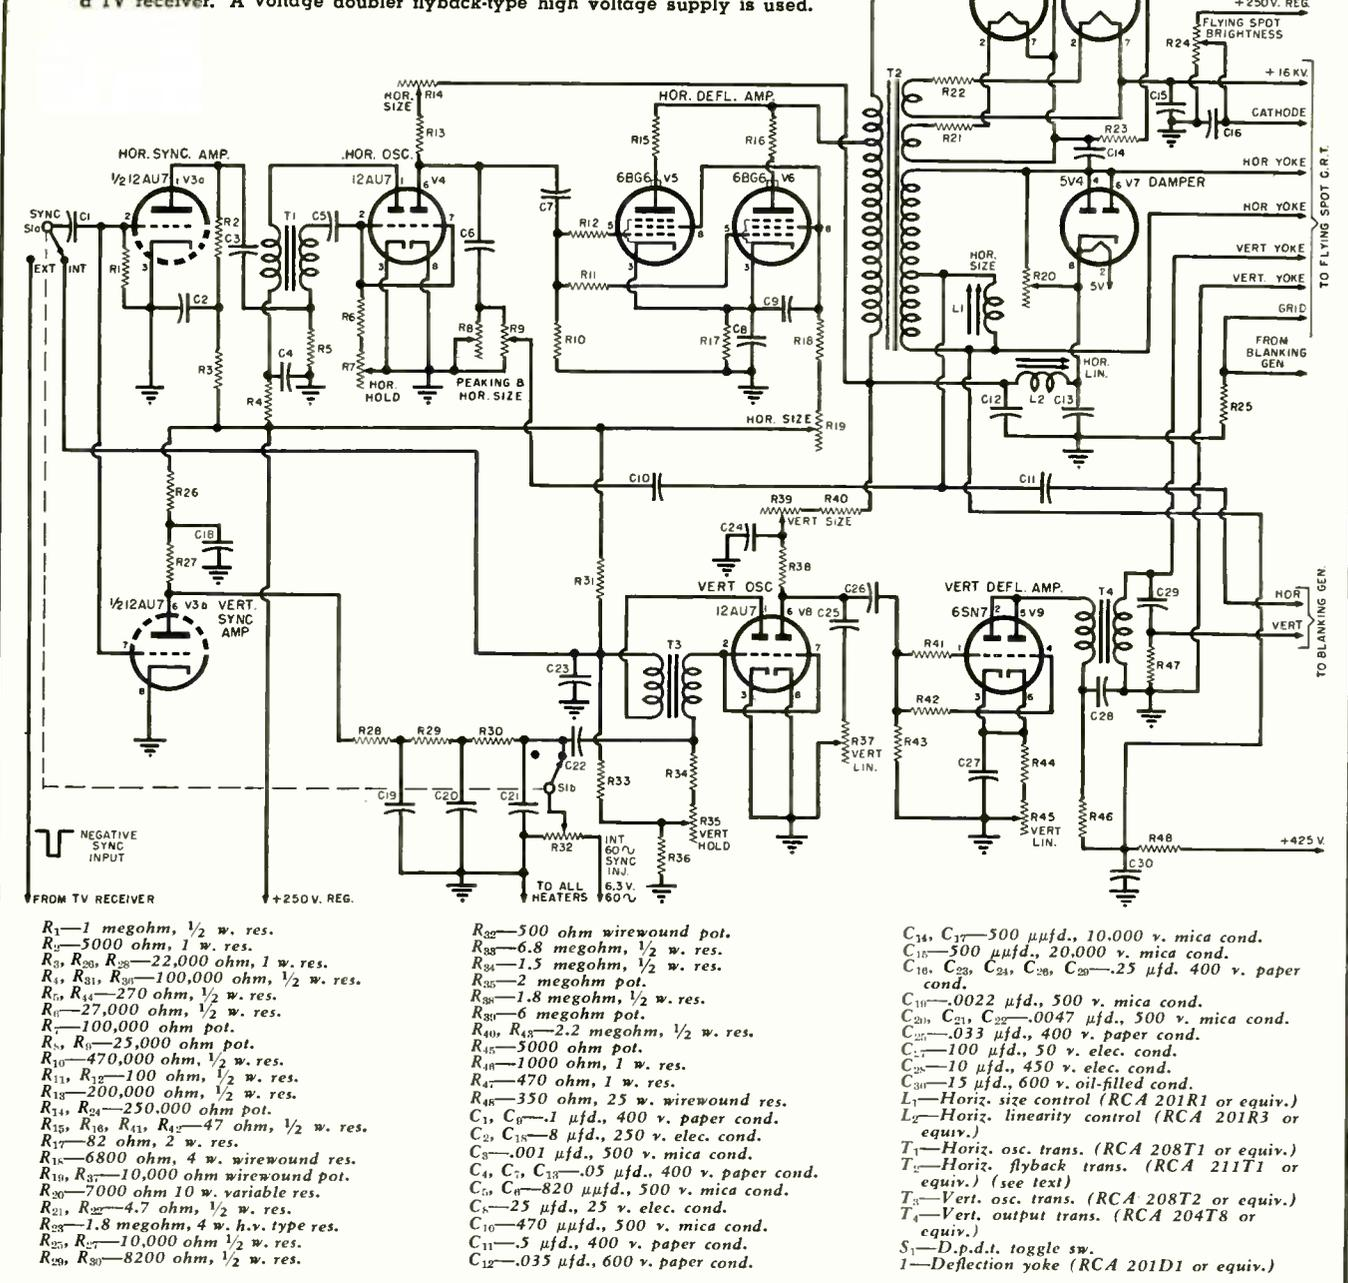

Fig. 2. Schematic diagram of flying spot scanner unit and high voltage supply. Photograph of the unit assembly is shown in Fig. 1.
**T**HE station units to be described in this, the second, article are those which were shown in the block diagram (Fig. 2) which appeared in the first article of the series (May 1950 issue). These particular units are shown in the block diagram as items 1, 2, 3, 4, 5, 6, and 8.
The usual television set, having a 10-inch tube, rarely has a second anode voltage exceeding 9000 volts. The sharpest and brightest possible raster that can be obtained will be the best for flying spot use, in order to provide a good signal-to-noise ratio in the derived video picture. Such a raster is obtained by higher voltages on the second anode of the cathode-ray tube. It was decided, therefore, to add a voltage doubler to the standard RCA type 211T1 transformer, as shown in Fig. 2.